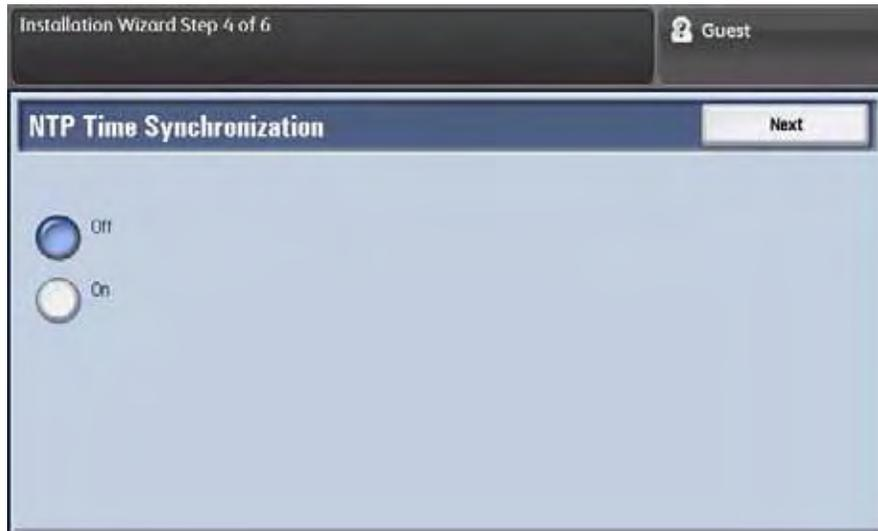

Figure 6 NTP Time Synchronization screen
5. (Figure 6) The NTP Time Synchronization screen displays next. Press the **Off** button and then press **Next**.